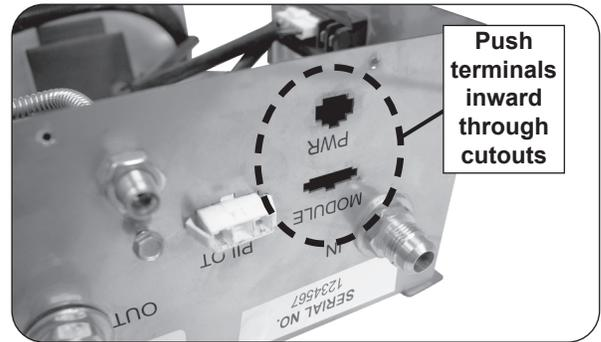

Fig. 4-2 Insert terminals into box
5. Locate and insert the MODULE and PWR wire terminals into the box by squeezing the side tabs inwards and pushing the terminals inward through the cutouts (see Fig. 4-2). This will provide easier access to the control valve.